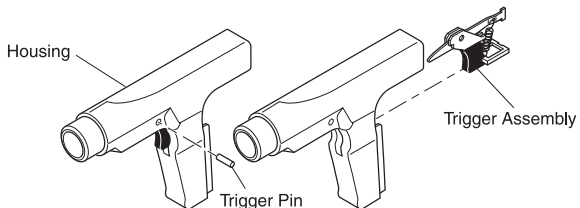

Figure 10 - Removing Trigger Pin and Trigger Assembly
1. Remove trigger pin from housing with hammer and punch (see Figure 10).